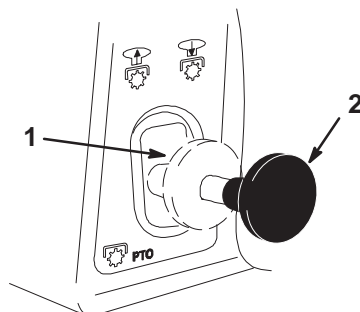

Figure 6
- Pull the power take off (PTO) to **on** (Fig. 6).
- Push the power take off (PTO) to off (Fig. 6).